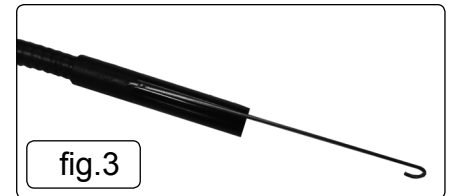

fig.3
- 4.3.1. The accessories (mirror, hooks, and magnet) are attached by positioning the hook in hole indicated by arrow on lens housing (fig.3).